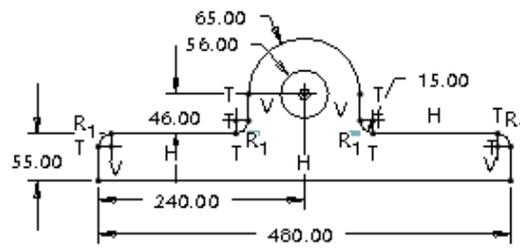

Figure 2-44 Sketch after modifying the dimensions
- e. Modify dimensions of the sketch, refer to Figure 2-44.